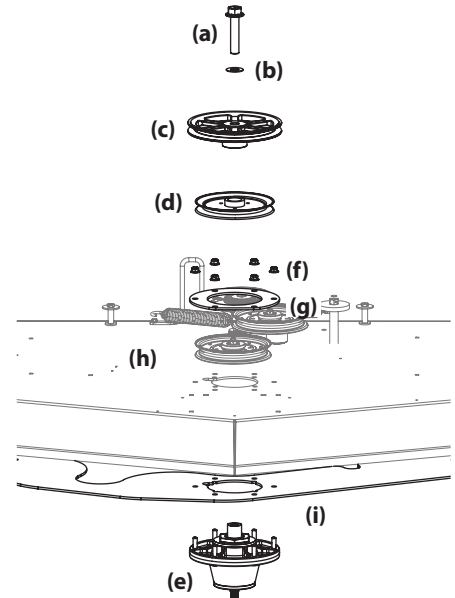

Figure 62
8. Remove the hex flange bolt (a) and flat washer (b) securing the drive pulley (c) and center spindle pulley (d) to the spindle assembly (e). See Figure 62.
9. Remove the six (6) flange lock nuts (f) securing the center (d), spindle assembly (e) and the support plates (g) to the deck shell (h). See Figure 62.